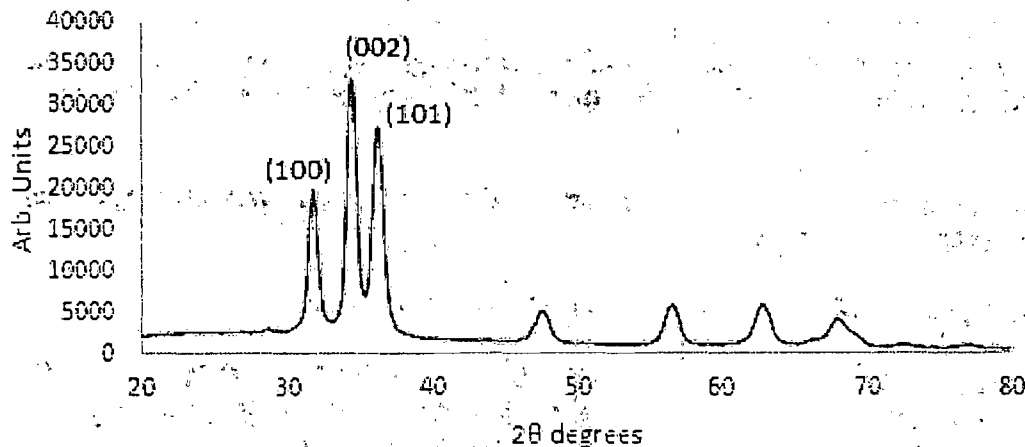

Figure 1.
a) Figure 1 below is an X-ray diffraction (XRD) pattern of an annealed zinc oxide thin film on a glass substrate prepared from a solution growth method at the Materials Science & Engineering Department of the University of Ghana. Assuming the broadening of the diffracted peaks is due to the grain sizes (dimensionless shape factor is 0.9), calculate the grain sizes oriented in the (100) and (002) directions using the Scherrer relation. The (100) and (002) peaks are diffracted at $2\theta = 31.8^\circ$ and 34.5° where θ is the Bragg angle and their full width at half maxima (FWHM) are 0.5° and 0.4° respectively. The wavelength of the X-ray radiation used is 0.154 nm.